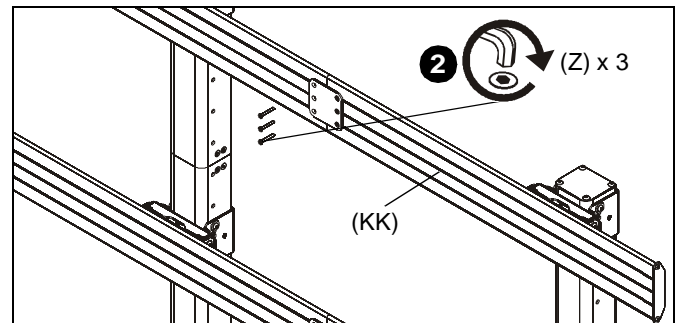

Figure 8
1. Install add-on rail (KK) to right column following instructions in Rails Installation section.
2. Use three #10-24 x 1 1/2" flat head cap screws (Z) to attach add-on rail (KK) to display rail (L). (See Figure 8)